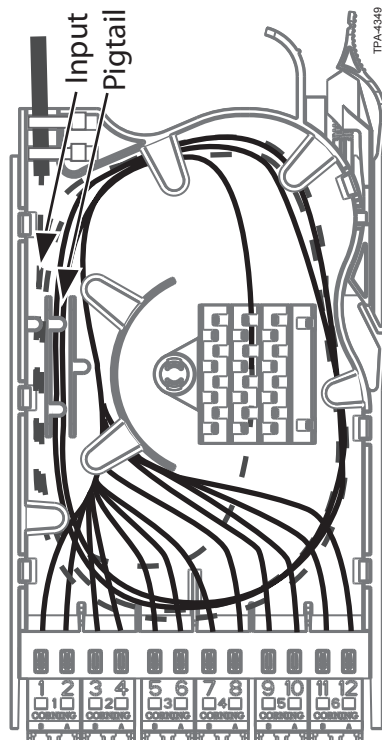

Figure 4
3.5 Once all splices are complete, route the bundle of spliced fibres as shown in Figure 4, storing fibres under the flanges to prevent them from being pinched when reinstalling the cover. It will be necessary to twist the fibres and flip them over to neatly route them inside the cassette.